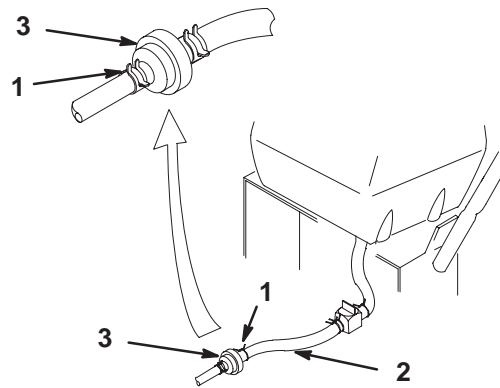

Figure 37
3. Squeeze the ends of the hose clamps together and slide them away from the filter (Fig. 37).